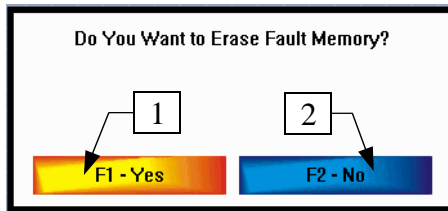
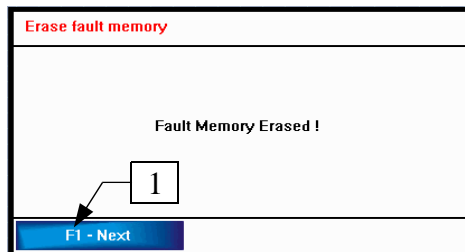

Figure 3.9
Figure 3.10
In the previous paragraph we have shown how to read the fault memory. The procedure of fault memory clearing will be shown here. Keep in mind that the fault memory can be cleared only if it has already been loaded. After selecting the corresponding option in the Diagnostic menu a dialog window requesting confirmation will appear (see Figure 3.9).
After pressing the YES button (1) the memory will be cleared. By pressing the NO button (2) you will return back to Diagnostics menu. The F1 and F2 keys on the TSPPro keyboard (Figure 3.9) can also be used. If the memory is deleted successfully an information dialog will appear on the screen (Figure 3.10). Pressing the Next button will return you back to the Diagnostics menu